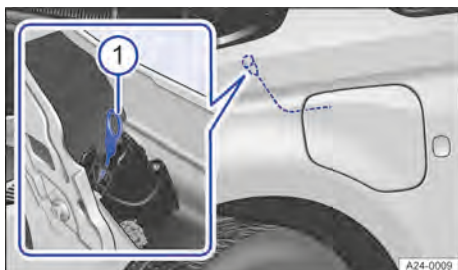

Fig. 162 Between the left wing and the bonnet space: manual release of the charging connector.
① Loop for manual release.
3. Pull loop → Fig. 162 ①.